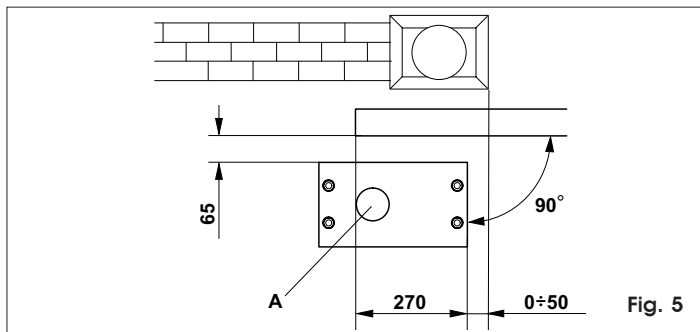
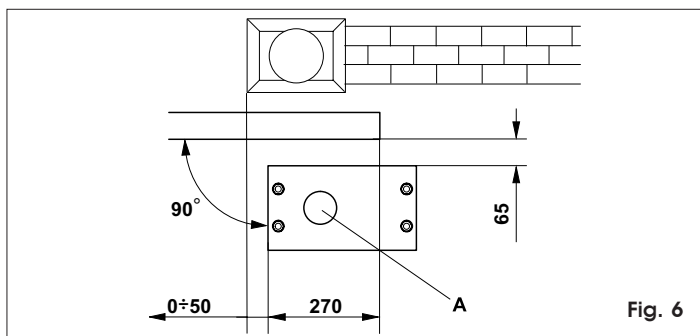

Fig. 5
Fig. 6
- 2) The foundation plate must be located as shown in figure 5 (right closing) or figure 6 (left closing) to ensure the rack and pinion mesh correctly.
Caution: While positioning the plate, leave the $\varnothing 80$ hole foreseen for the routing of the sheaths on the left, as shown in fig. 5 and 6, ref.A.